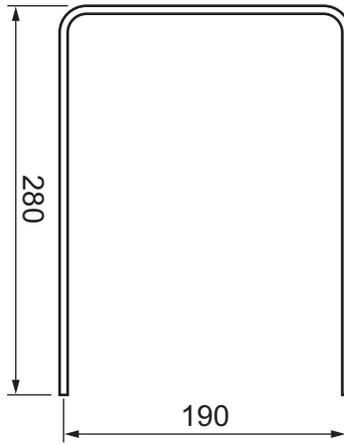

Fig. 13.3
- (e) Fig. 13.3 shows details of the support bent to shape from a length of brass rod. Use sketches and notes to show a design for a bending jig that could be used to produce ten identical supports. Give details of all materials and constructions used.